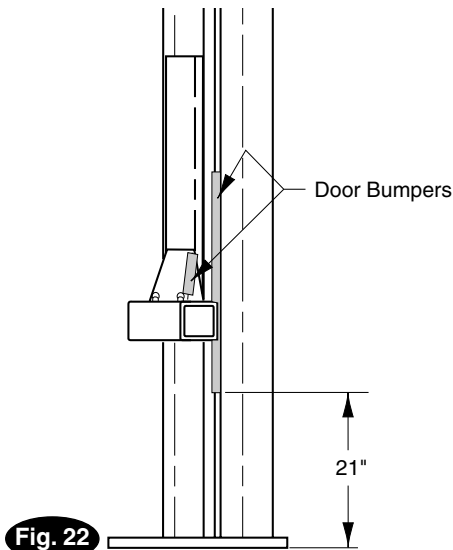

Fig. 22
1) Press bumpers on column edge and carriage, Fig. 22.